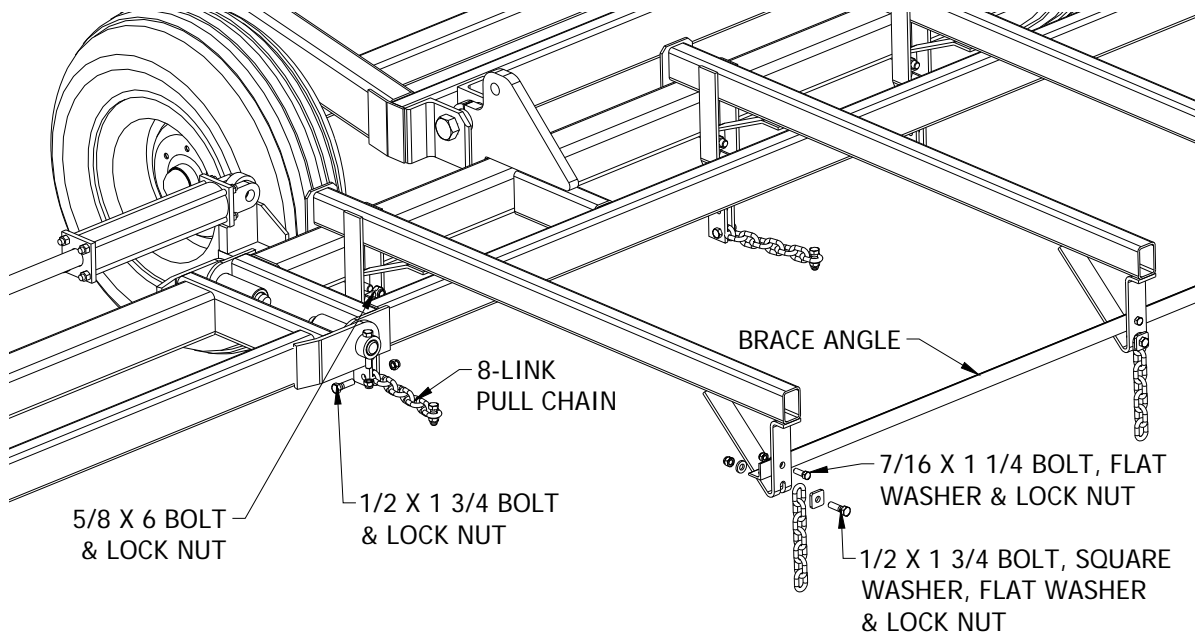

Figure 6
2. Bolt the free end of the chain to the rear lift point using a 7/16 x 1 3/4 bolt, square washer, flat washer and lock nut. The square washer goes between the bolt head and the chain. Refer to figure 6 above.